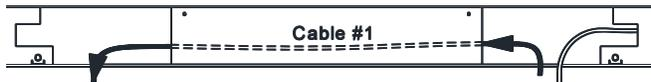

Fig 9 – Cable #1 Routing
- 8) Starting from the rear of the lift. Identify **Cable #1** using **Fig 4**. Route **Cable #1** through the access hole of the rear crossbeam, and back out the idler side access hole as shown in **Fig 9**.